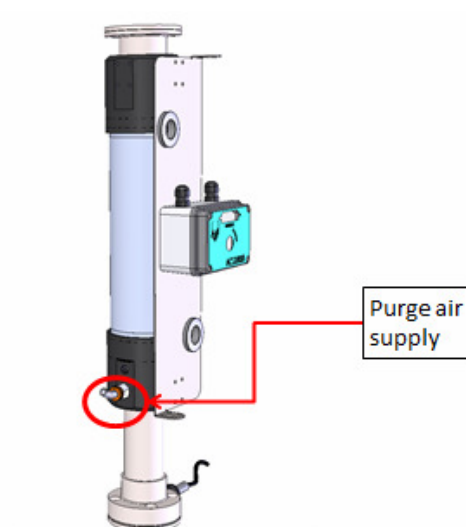

Figure 19 Purge Air Connection to Dryer
- **Purge Air Out:** This port connects with the bottom port of the dryer using the blue tubing and supplies a controlled air flow rate to the outer tube of the dryer as shown in Figure 19.